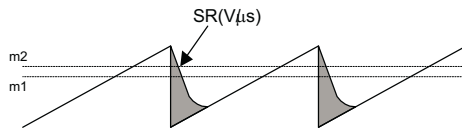
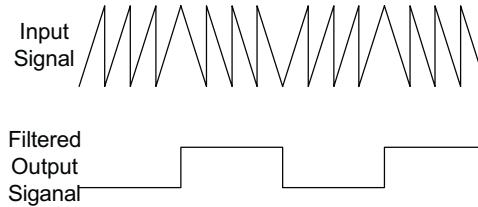
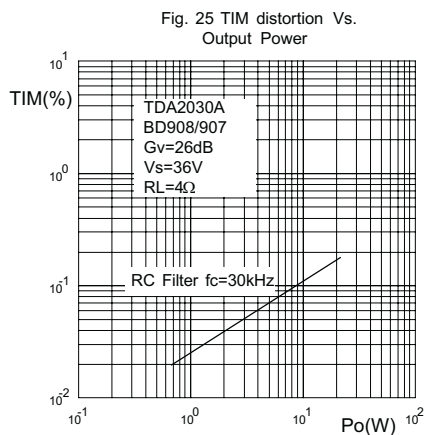

Fig.23 20kHz sawtooth waveform
Fig.24 Inverting
Fig. 25 TIM distortion Vs. Output Power
The "inverting- sawtooth" method of measurement is based on the response of an amplifier to a 20KHz saw-tooth wave-form. The amplifier has no difficulty following the slow ramp but it cannot follow the fast edge. The output will follow the upper line in Fig.23 cutting of the shade area and thus increasing the mean level. If this output signal is filtered to remove the saw-tooth, direct voltage remains which indicates the amount of TIM distortion, although it is difficult to measure because it is indistinguishable from the DC offset of the amplifier. This problem is neatly avoided in the IS-TIM method by periodically inverting the saw-tooth wave-form at a low audio frequency as shown in Fig.24.Inthe case of the saw-tooth in Fig. 25 the means level was increased by the TIM distortion, for a saw-tooth in the other direction the opposite is true.
In Fig.25 The experimental results are shown for the 30W amplifier using the TDA2030A as a driver and a low-cost complementary pair. A simple RC filter on the input of the amplifier to limit the maximum signal slope (SS) is an effective way to reduce TIM.